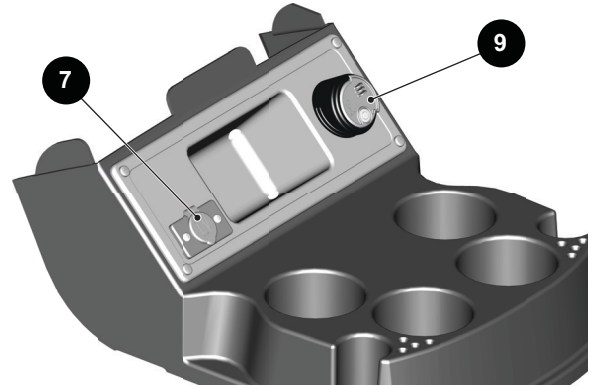

Figure 2
A 12-Volt power outlet (7) is located to the left of the center compartment. The outlet supplies continuous power for any accessories that have a 12-Volt plug (Figure 2).
A USB port (9) is located to the right of the center compartment (Figure 2).